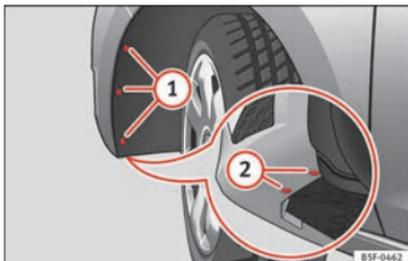

Fig. 214 Fog light: access to the connector and to the light bulb holder.
- Remove the 3 bolts (1) » Fig. 214 from the inside of the wheel housing and the 2 bottom bolts (2) » Fig. 214 from the bumper with the help of a screwdriver.